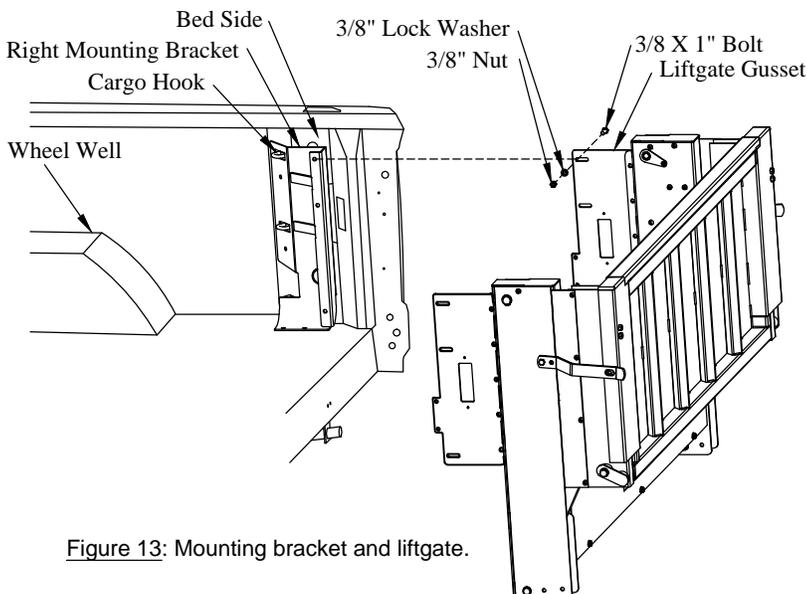

Figure 13: Mounting bracket and liftgate.
- (3) 3/8" x 1" hex head bolts on the bracket-side (Figure 13).